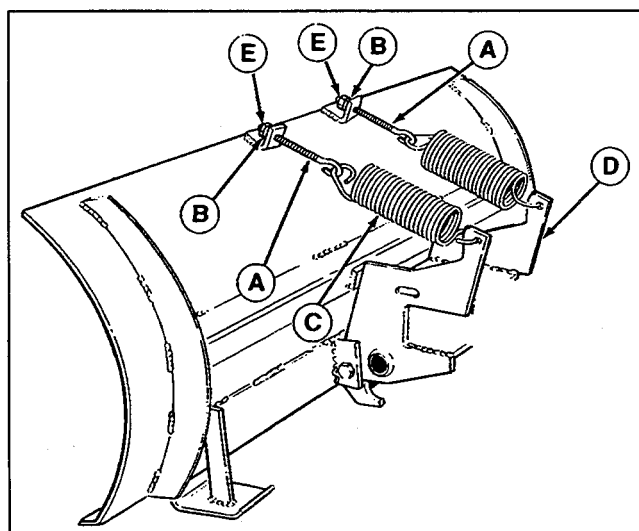

Figure 20. Tension Springs
See Figure 20. To adjust spring tension hold rear nut (B) and loosen front nut (E). Tighten rear nut (B) to increase spring tension, or loosen to decrease tension.